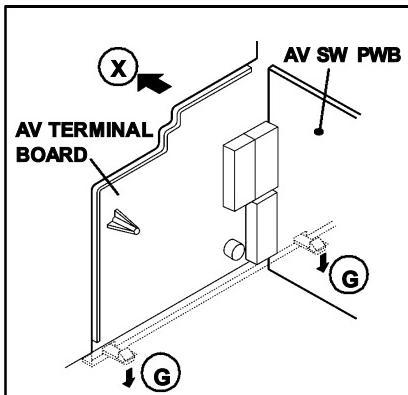

Fig. 3
2. Remove the 2 claws marked G under the CHASSIS as shown in Fig. 3.
3. Remove the AV TERMINAL BOARD slightly in the direction of arrow X as shown in Fig. 3.